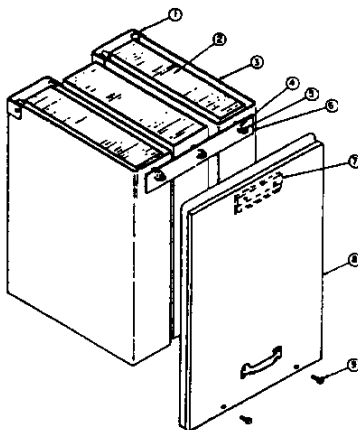

Fig. 3 — Method of Attaching Barrier Assemblies
3.3 REMOVING INTERPHASE BARRIERS (See Figure 3)
3.9 INSTALLING INTERPHASE BARRIERS (See Figure 3)